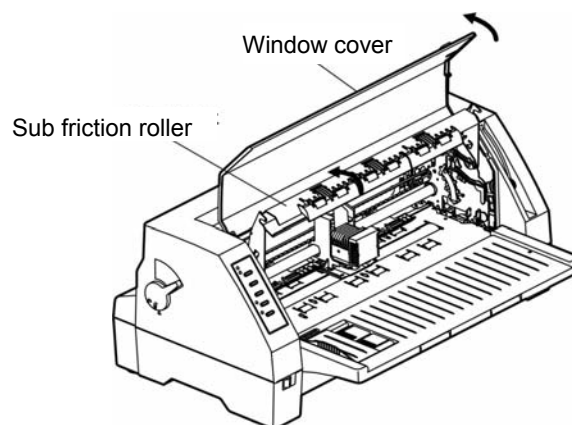

Figure 2-5 Opening the window cover and the Sub friction roller.
- 2 Open the printer window cover by holding the side of the window cover as shown in Figure 2-5.
- 3 Pull the Sub friction roller by gripping the center area of the unit by your forefingers. Then lift it up until it is positioned upwards towards the top of the printer as shown in Figure 2-5.